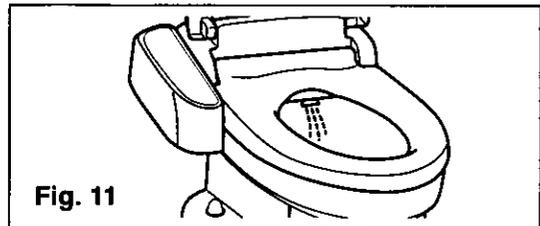

Fig. 11
11. Drain off water (page 20) from this appliance if it is not going to be used for an extended period of time. (Fig. 11)